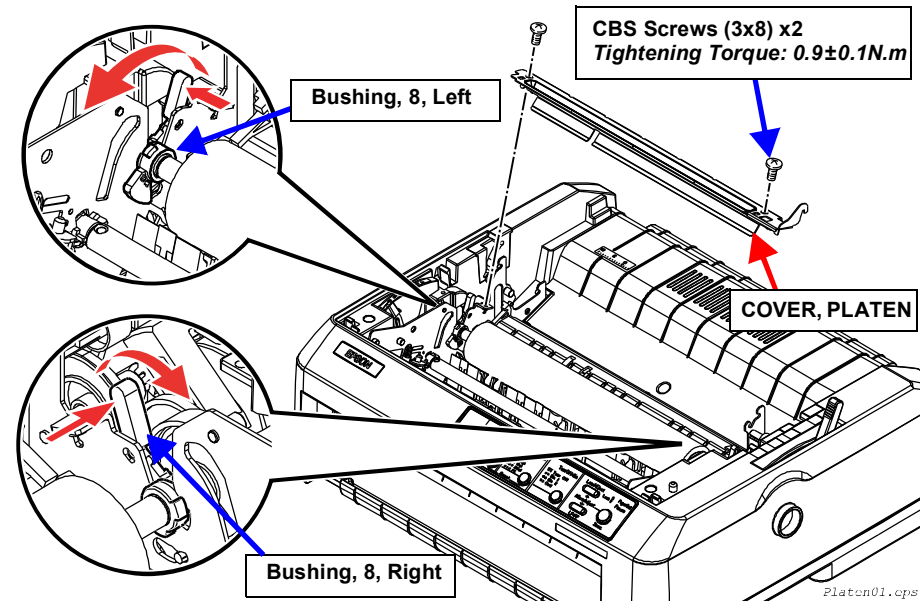

Figure 4-14. Platen Removal 1
2. Remove the 2 CBS (M3x8) screws securing the COVER, PLATEN. (See Figure 4-14)